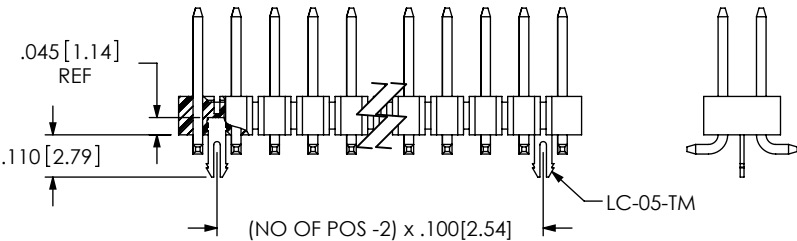

FIG 2
- LC: LOCKING CLIP (SEE FIG 2, SHT 2)